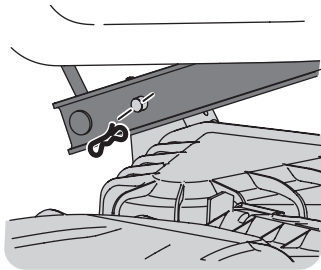

Figure 22
- Looking at the deck from the left side of the tractor, locate the bow-tie pin on the rear left side of the deck (Figure 22).
- Remove the pin and slide the deck pin out of the deck lift arm (Figure 22).